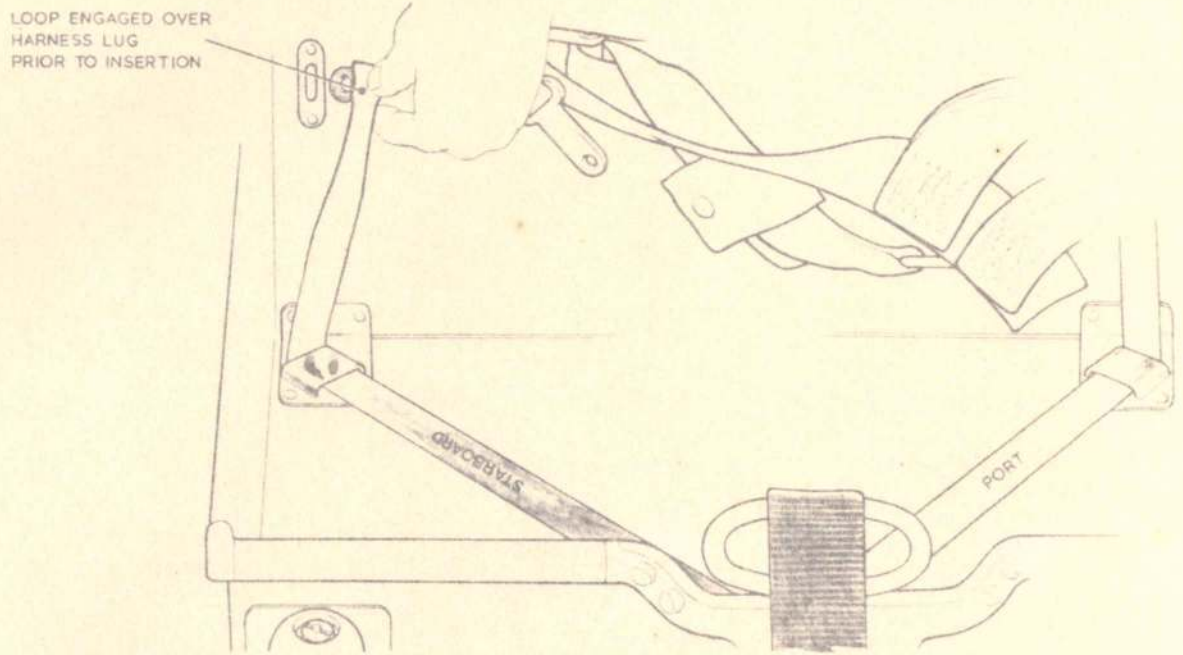
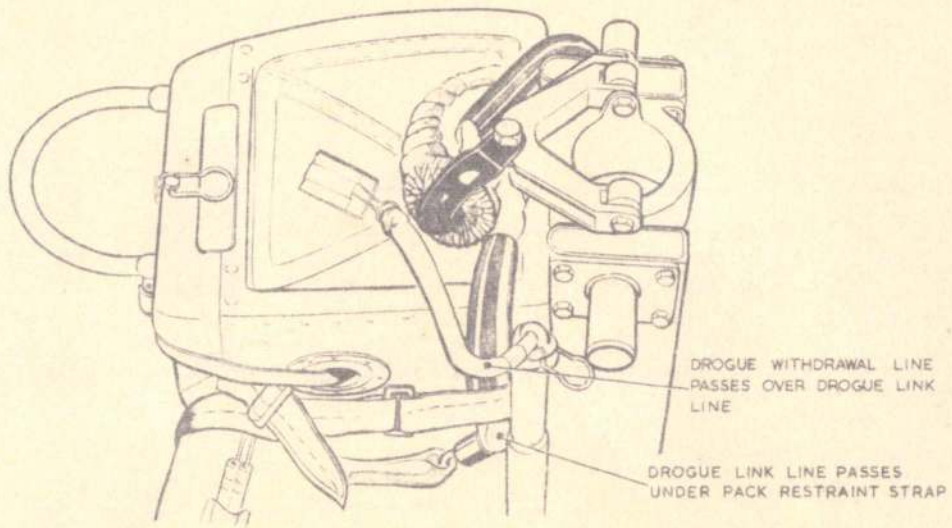

Fig. 5. Inserting the starboard bottom harness lock (port similar)
Fig. 7. Arrangement of drogue withdrawal and link lines
- (8) Pass the right-hand pack restraint strap through the buckle on the short strap at the right-hand side of the drogue container (refer to the note following sub-para. (7)) then forward through the buckle on the right-hand side of the headrest cushion.
- (9) Tighten the left-hand pack restraint strap and then the right-hand strap so that the pack and headrest cushion are held firmly in position.
- (10) Connect the two halves of the link line coupling ensuring that the line passes under the left-hand pack restraint strap and UNDER THE DROGUE WITHDRAWAL LINE (*fig. 7*).
- (11) ◀ Fit the negative-G restraining strap as follows:—
- (c) Engage the looped end of each strap over its bottom lock harness lug and insert the lugs into their bottom locks (*fig. 5*). It may be necessary to partially depress the harness release lever beneath the barostatic time release unit to facilitate insertion of the lugs. Check that they have locked correctly by pulling on the lugs.
- (12) Lift the harness clear of the seat pan and insert the personal survival pack into the pan, first lowering the rear of the pack and then sliding it to the rear.
- (13) Place the comfort cushion on the top of the personal survival pack and secure it to the harness straps.